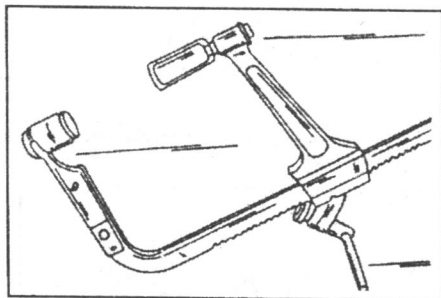

Fig. 1.49. — A valve lifter suitable for these engines.
- A valve lifter, similar as shown in Fig. 1.49 is the best tool for the removal of the valves. Valve lifters are now available from most tool hire companies and there should be no problem obtaining one. It is also possible to remove the valves by placing a piece of wood into the combustion chamber, to support the valve head, and then to proceed as follows: